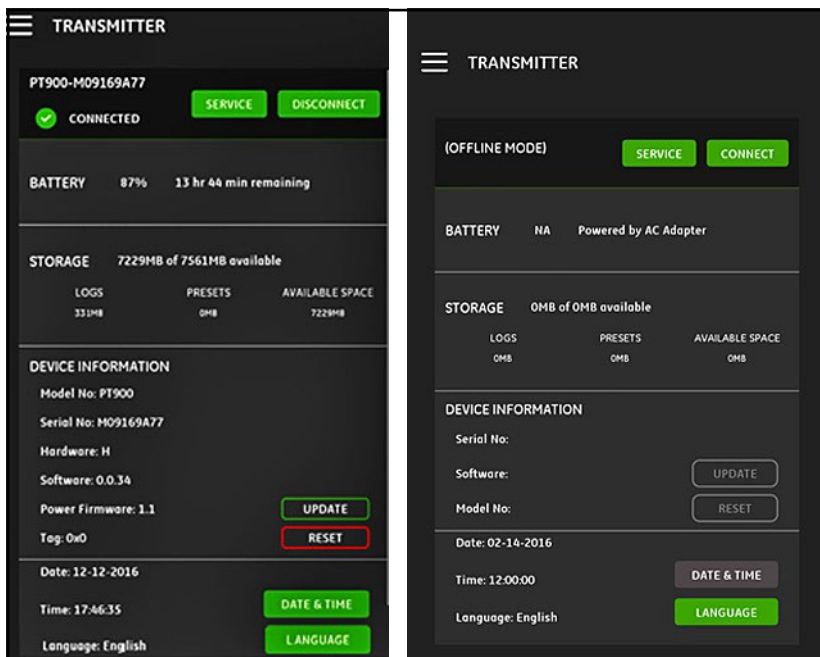

Figure 118: CONNECTED (Left) and OFFLINE (Right) Menus
Important: Before creating a new log, be sure to synchronize the transmitter and the tablet time settings by clicking the DATE & TIME button in the TRANSMITTER menu (see Figure 118 on page 116).
1. Be sure the transmitter and tablet time settings are synchronized by setting the transmitter time in the TRANSMITTER > DATE & TIME menu (see Figure 118 on page 116).
If a PT900 transmitter is CONNECTED to the tablet APP via Bluetooth, the TRANSMITTER menu shows device information about the PT900 transmitter, the battery and the memory usage. However, if the connection is OFFLINE, this information is unavailable. See examples of both possibilities in Figure 118 below.
7. Go to the TRANSMITTER menu (see Figure 118 on page 116) and verify that the device information is correct.